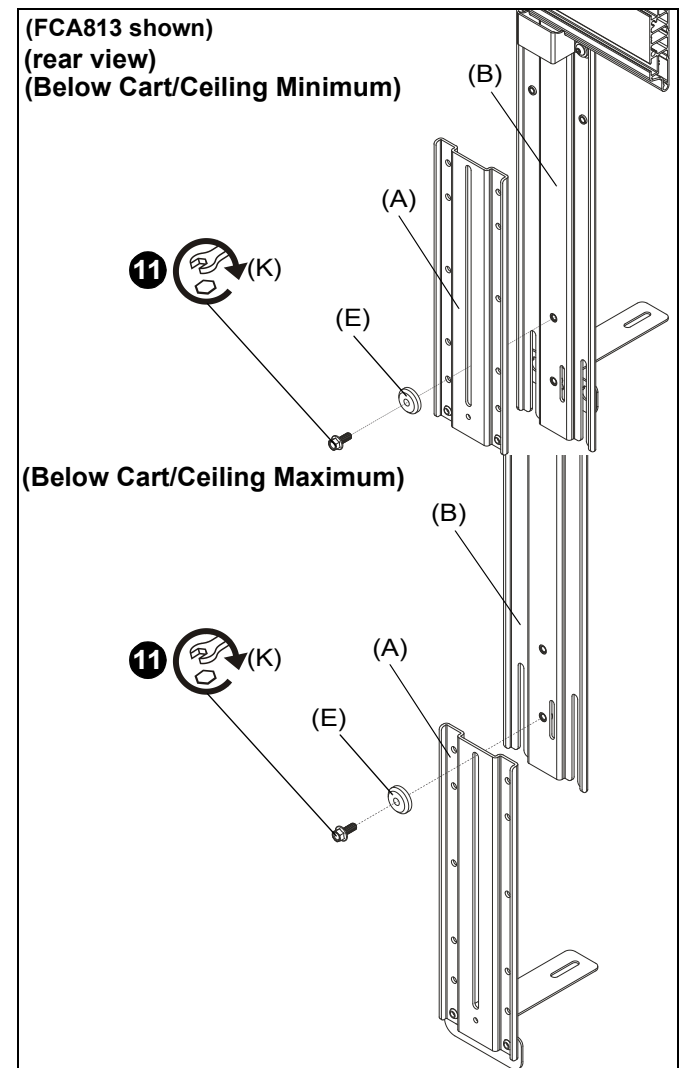

Figure 10
11. Use 1/4-20 x 5/8" hex head flange bolt (K) and center washer (E) to secure upright bracket (A) to main bracket (B). (See Figure 10)